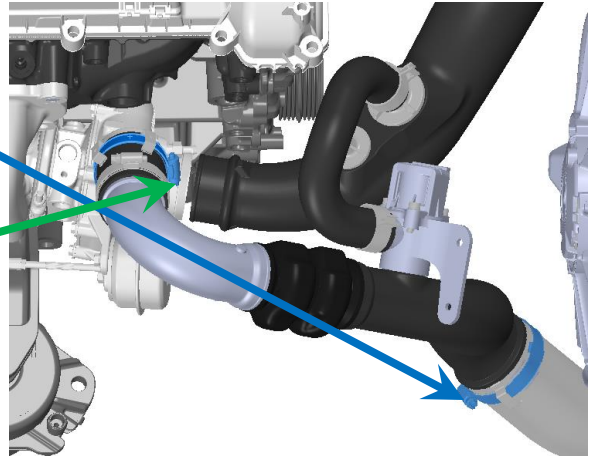

Fig. 7
3. By following the Turbo discharge tube down towards the intercooler, located and loosen worm clamp. See Fig. 7 (use 7mm socket)
4. Loosen last discharge tube worm clamp and wiggle the tube out from the engine bay. See Fig. 7 (use 7mm socket)